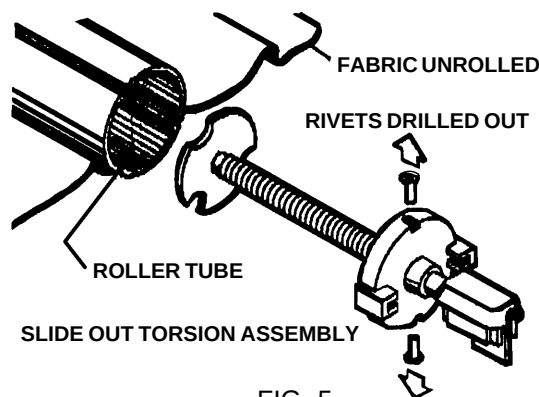

FIG. 5
3. Remove the two screws holding the torsion assembly to the roller tube. If secured by pop rivets, drill out the two rivets using a 3/16" drill bit. Remove assembly from roller tube. See FIG. 5.